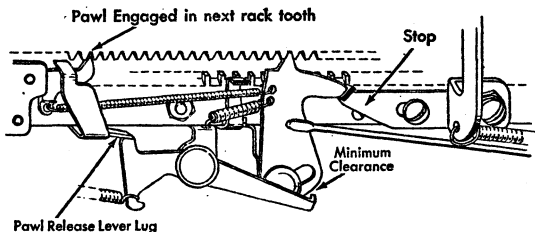

Figure 54. Backspace Interlock Adjustment
2. THE PAWL RELEASE LEVER LUG which contacts the backspace interlock is formed so that with the interlock at rest, the backspace pawl may be moved past it with a minimum of clearance (Figure 54).